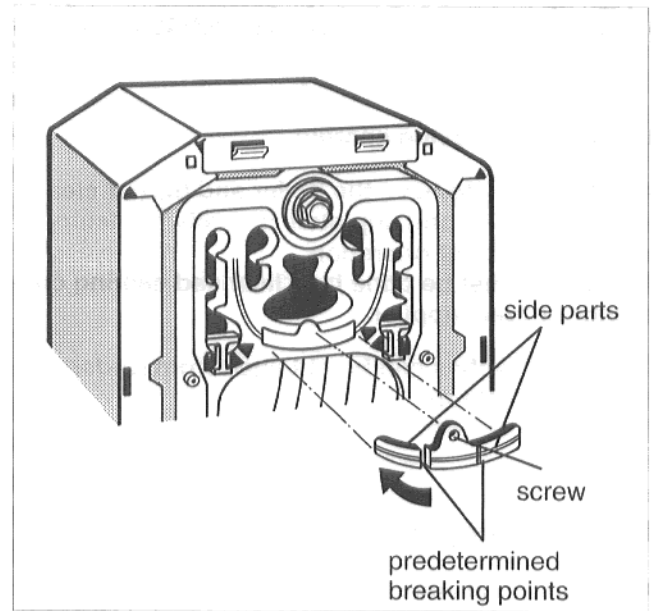

Fig. 31
- Place the flue gas blocking plate on a supporting surface in such a way that the predetermined breaking points hang over the edge of a workbench or similar surface (Fig. 31).